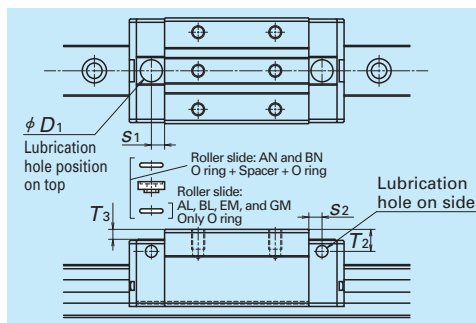

Fig.13 Top and side lubrication hole positions
- A lubrication hole can also be provided on the top of the end cap. **Fig.13**, **Table 8** and **Table 9** show the mounting position. A spacer is required for AN and BN shape roller slides. The spacers are available from NSK.